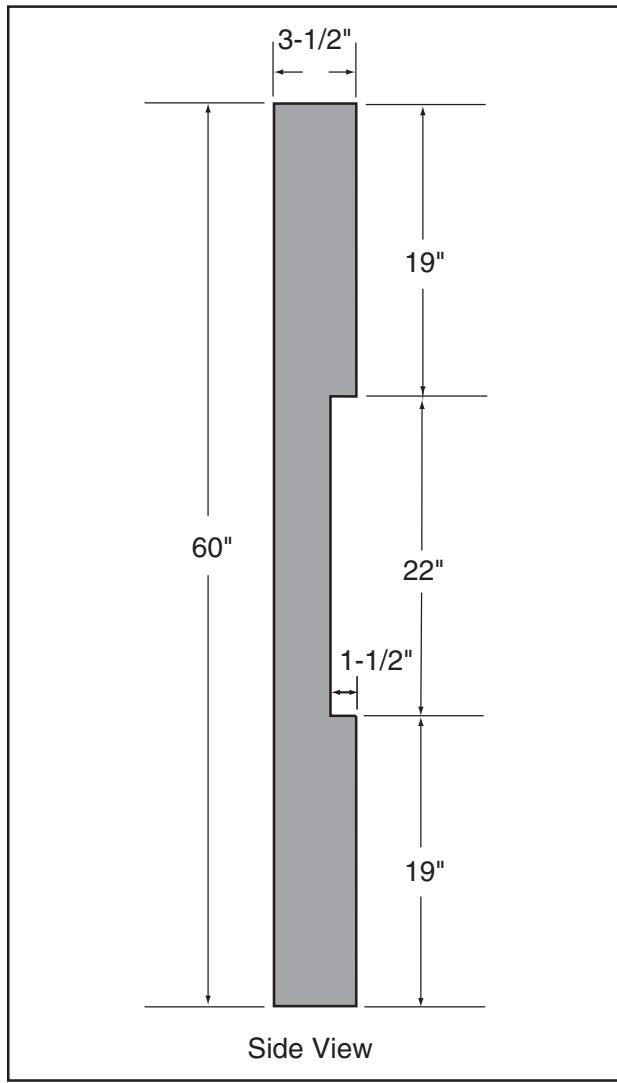

Figure 95. Dimensions of coplanarity gauge.
Coplanarity Gauge (see **Figure 95**) 1
1. Make the "Coplanarity Gauge" shown in **Figure 95**.